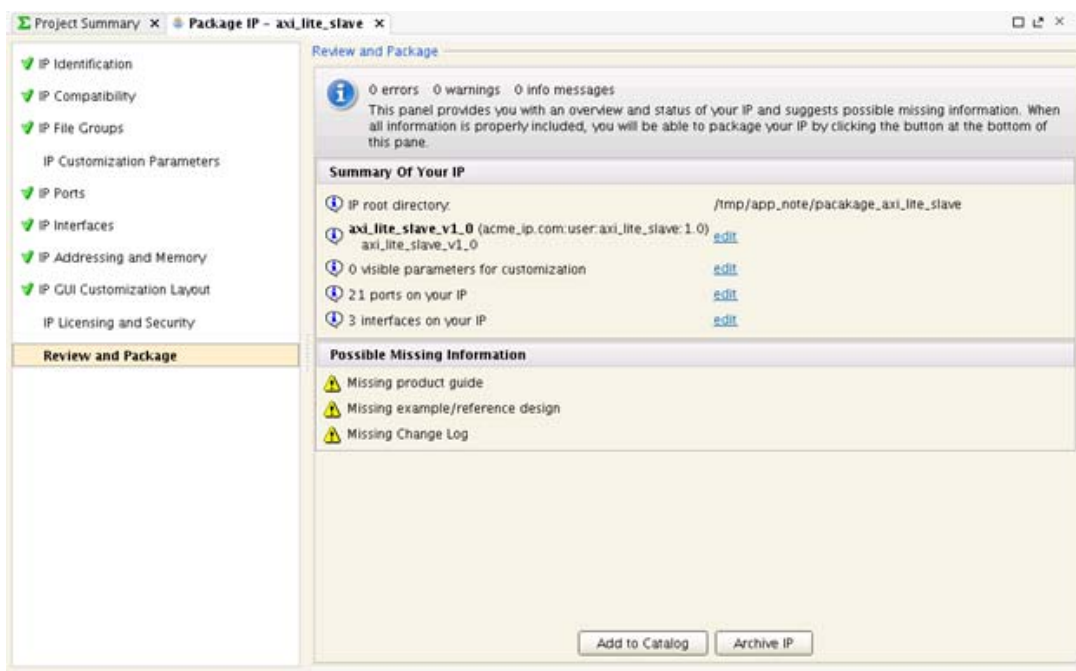

Figure 27: Package IP Tab (Review and Package) for AXI4-Lite Slave
1. Select **Review and Package**, and click **Archive IP** (Figure 27).